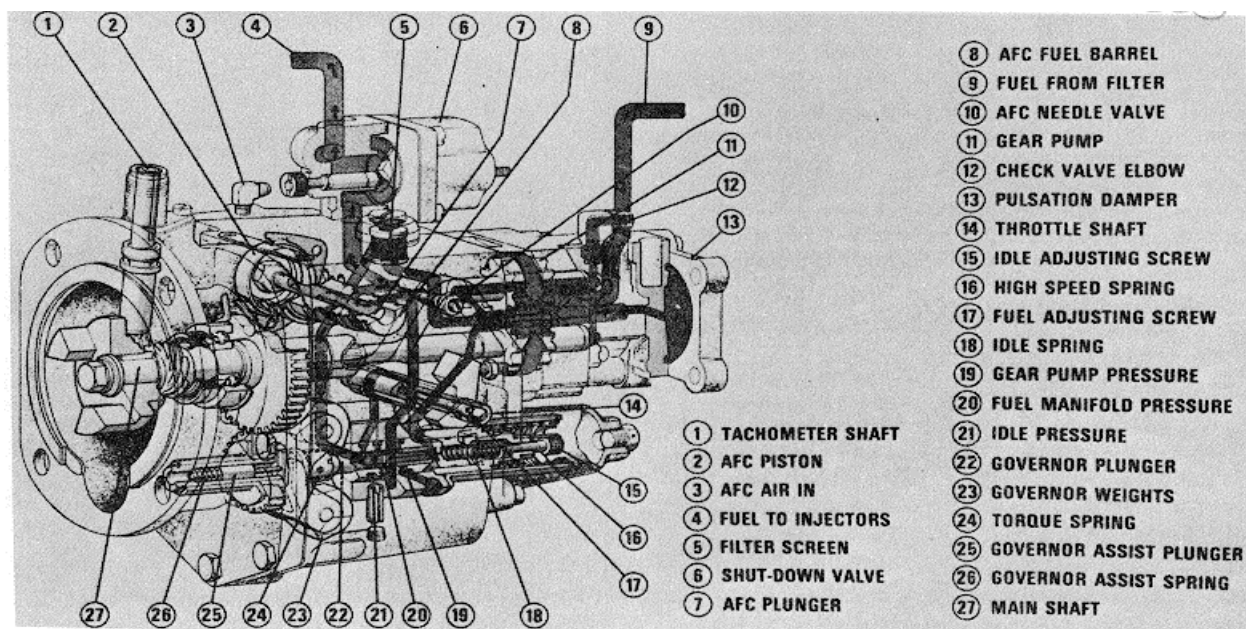

Fig. 5-3, FWC-37. PT (type G) fuel pump cross-section and fuel flow
3. The throttle which provides a manual control of the fuel flow to the injectors under all conditions in the operating range. The location of the fuel pump components is indicated in Fig. 5-3.
In the PT (type G) fuel pump, to the governor assembly as shown in Fig. 5-3.